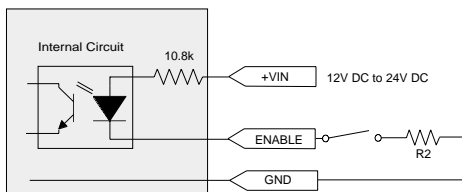
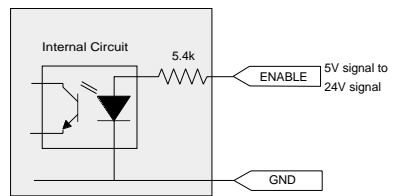

Figure 7a - Enable Input Signal, Standard
Figure 7b - Enable Input Signal with Positive Enable Option
5.3.4 ENABLE (YELLOW WIRE) *(Refer to Figure 7a & b)*
The laser enable circuitry is connected internally through a 10.8k ohm resistor to +VIN. If the remote selector switch is set to OFF (up position) the enable line will have no effect on operation. Up to 700Ω can be used in external resistor at R2. Refer to figure 7a. If the positive enable option is ordered refer to figure 7b for enable input signal. R2 is not required.